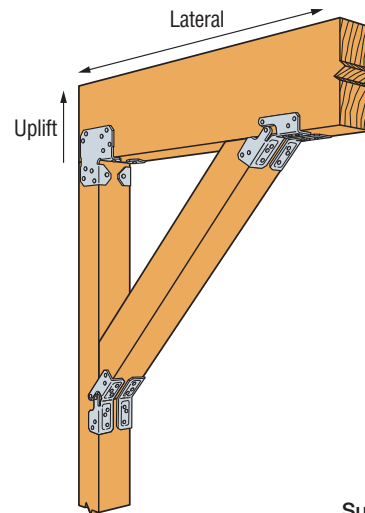
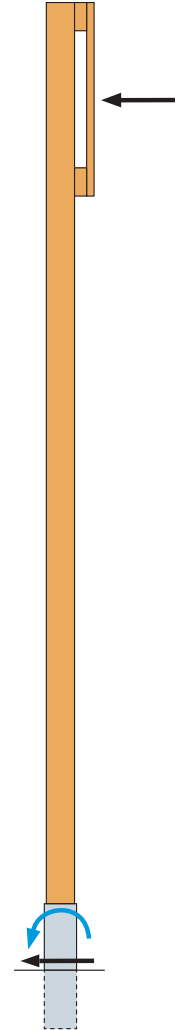

Figure 2 — Typical LCE Post Cap Installation with KBS1Z Knee Bracing
Figure 3 — Non-Top-Supported Post with MPBZ Moment Post Base
- Except for the MPBZ moment post base, post bases do not provide adequate resistance to prevent members from rotating about the base and are therefore not recommended for non-top-supported installations (such as fences or unbraced carports). The top of the post must be restrained from moving horizontally by some other means, e.g., by tying the roof into a supporting structure or by adding knee bracing between the posts and beams. (Figure 2) Alternatively, see the MPBZ on pp. 80–81 for a post base that provides moment resistance for columns or posts. (Figure 3)
- Allowable lateral loads for post caps can only be achieved if one of the members, the post or beam, is supported laterally by other means. (Figure 2) For applications involving lateral load transfer from the beam to the column, the column must be designed to receive the load without rotating about its base (e.g., cantilevered out of the ground, diagonally braced, or connected at the base with a moment-resisting connector like the MPBZ post base).